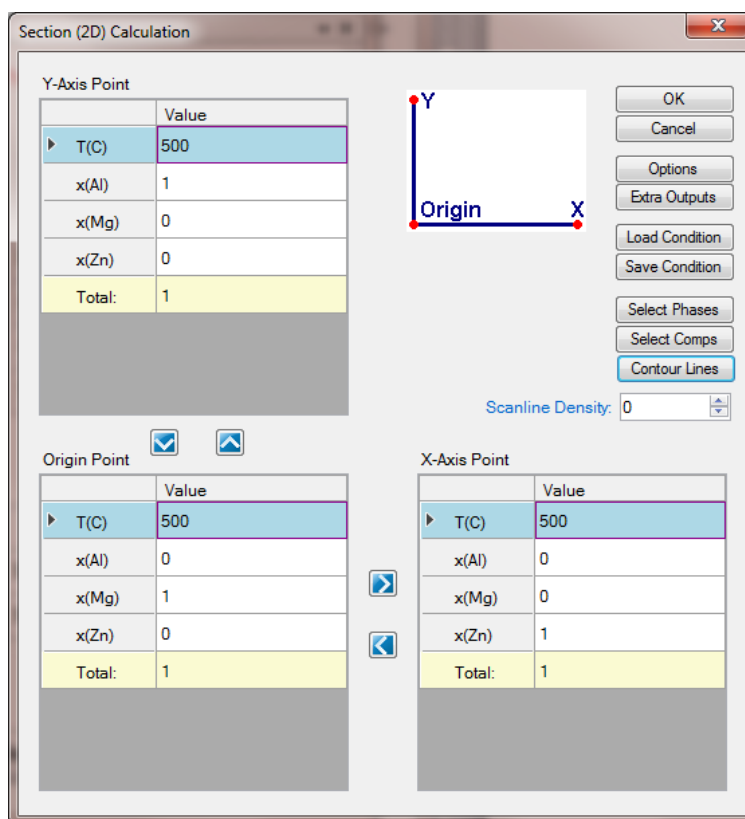

Figure 1.15.1: Setup calculation for an isotherm in the Al-Mg-Zn ternary at 500°C, then press "Contour Lines"
- First set up the calculation condition as shown in Figure 1.15.1 in the same way as we did to calculate Al-Mg-Zn isotherm (see Example_#5), then click "Contour Lines" to open the contour line dialog as shown in Figure 1.15.2;